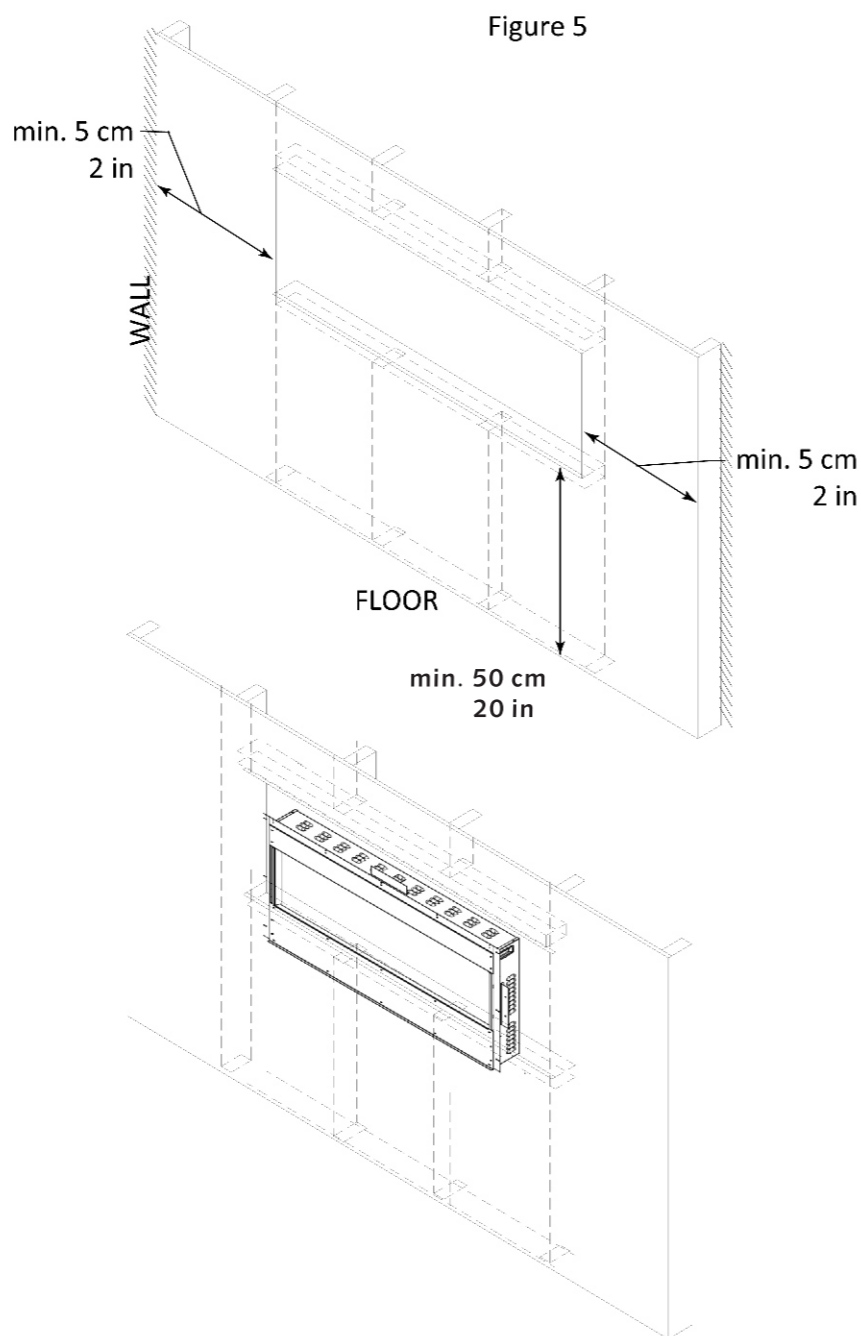

Figure 5
4. Prepare a wall with a framed opening to accommodate the size of your unit. Leave at least 1/4" (6mm) around the edge of the appliance. Any new wiring must be done in compliance with local and national codes and other applicable regulations. (Figure 5)